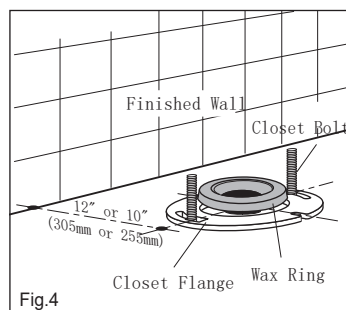

Fig.4
2. Position wax ring and offset adaptor onto closet bolts as detailed in Fig. 4 and 5, ensuring that the offset adaptor is positioned for 10" (255mm) to 12" (305mm) rough in as detailed in Fig.1.